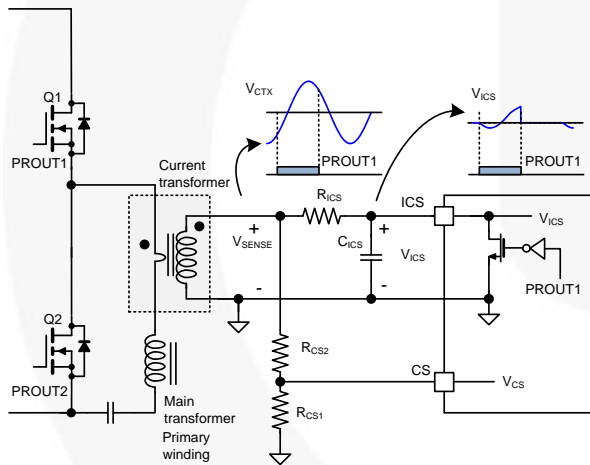
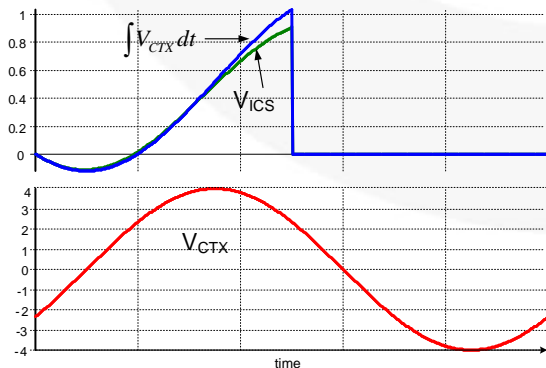
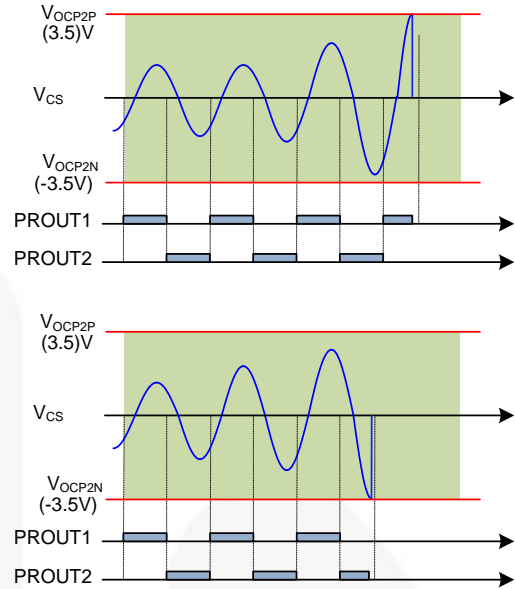

Figure 61. Current Sensing of FAN7688
Figure 62. Generating the Integral Signal (V_{ICS}) from V_{SENSE}
Figure 66. Over-Current Protection of the CS Pin
FAN7688 senses instantaneous switch current and the integral of the switch current as illustrated in Figure 61. Since FAN7688 is located in the secondary side, it is typical to use a current transformer for sensing the primary side current. While the PROUT1 is LOW, the ICS pin is clamped at 0 V with an internal reset MOSFET. Conversely, while PROUT1 is high, the ICS pin is not clamped and the integral capacitor (C_{ICS}) is charged and discharged by the voltage difference between the sensing resistor voltage (V_{SENSE}) and the ICS pin voltage. During normal operation, the voltage of the ICS pin is below 1.2 V since the power limit threshold is 1.2 V. The current sensing resistor and current transformer turns ratio should be designed such that the voltage across the current sensing resistor (V_{SENSE}) is greater than 4V at the full load condition. Therefore the current charging and discharging C_{ICS} should be almost proportional to the voltage across the current sensing resistor (V_{SENSE}). Figure 62 compares the V_{ICS} signal and the ideal integral signal when the amplitude of V_{SENSE} is 4 V. As can be seen, there is about 10% error in the V_{ICS} signal compared to the ideal integral signal, which is acceptable for most designs. If more accuracy of the V_{ICS} is required, the amplitude of V_{SENSE} should be increased.
- (1) Non-ZVS Prevention: When the compensation voltage (V_{COMP}) is higher than 3 V and V_{CS} peak value is smaller than 0.3 V, non-ZVS condition is detected, which decreases the internal compensation signal to increase the switching frequency.
- (2) Over-Current Protection (OCP2): When V_{CS} is higher than 3.5 V or lower than -3.5 V, over-current protection (OCP) is triggered. The instantaneous primary side current is also sensed on CS pin. Since the OCP thresholds on the CS pin are 3.5 V and -3.5 V as shown in Figure 66, the CS signal is typically obtained from V_{SENSE} by using a voltage divider as illustrated in Figure 61. 150 ns debounce time is added for OCP.